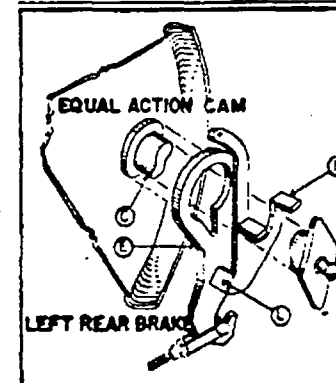

Fig. 2
THIS brake is the Single Anchor Duo Servo type Bendix brake, and is found on 1931 to 1935 cars. The equal acting cam type, as shown in Fig. 2 differs from earlier types in that shoe application is by means of an equal action cam (D) which floats on the anchor pin (C). The cam lever (E) pivots on anchor and contacts lug (L) on the cam (D) to move brake shoes into action. This type of action is found on some 1933 and most 1934 and 1935 cars equipped with single anchor Bendix brakes. The principle of this brake mechanism is the same as the two-shoe double anchor brake shown on Pages 8 and 9 except that it is cable controlled in all cases.